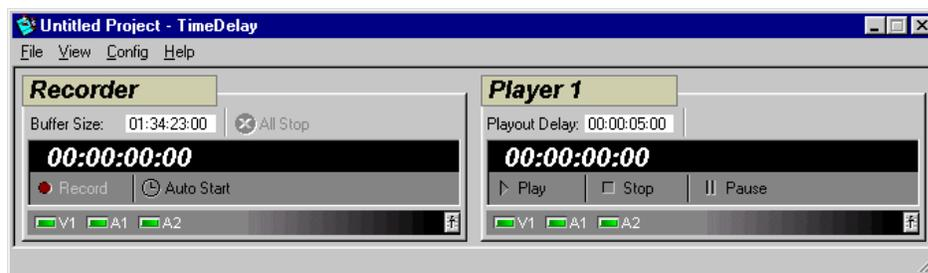

Figure 175. Two-column display
**Two Columns** Displays the record and play panels in two columns as shown in Figure 175.